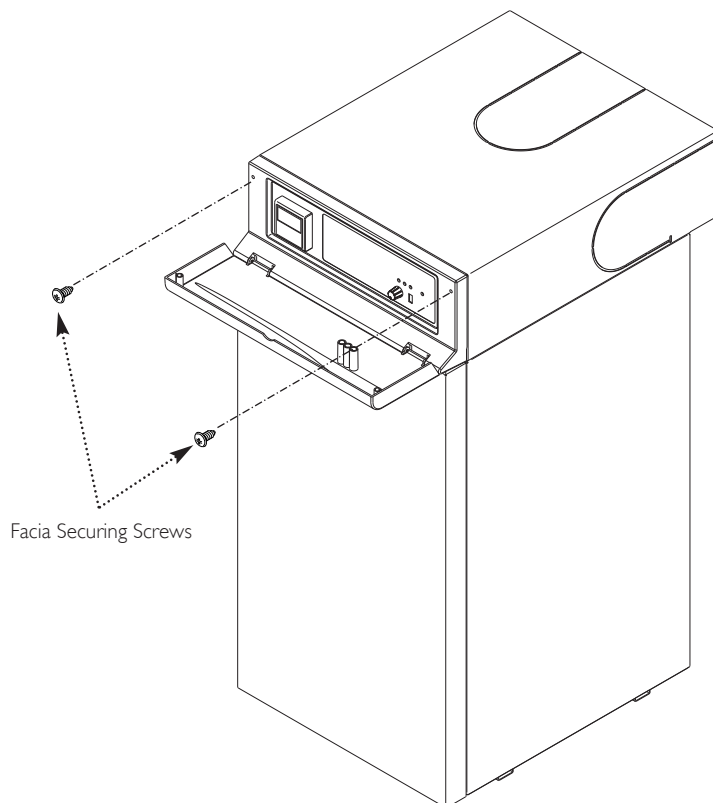

Fig. 38
2. Locate the facia panel and secure with the screws previously removed (Fig. 38).